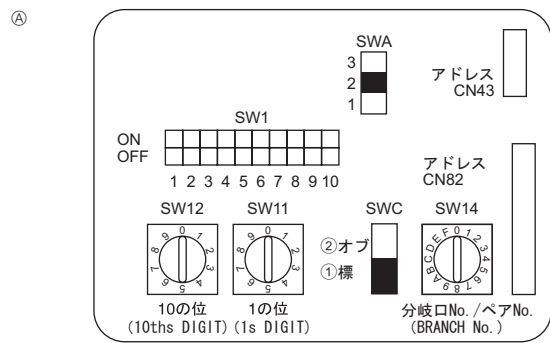

Fig. 6-4
6.5. Setting addresses (Fig. 6-4)
- ① How to set addresses
- ① Address board
6.6. Sensing room temperature with the built-in sensor in a remote controller (Fig 6-4.)